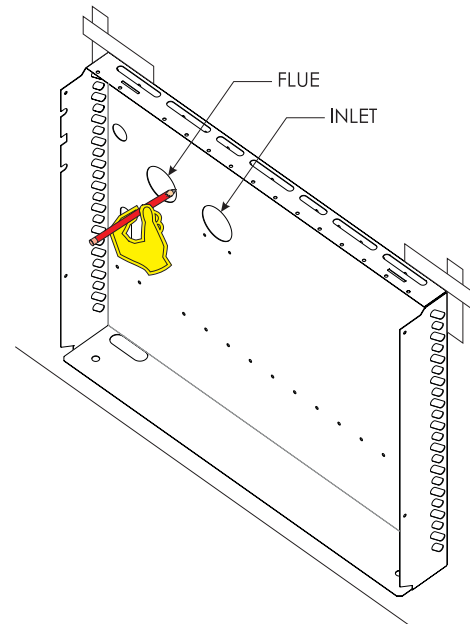

Figure 2
3. Mark corners of shroud with masking or painter's tape. Mark flue and inlet (if used) pipe holes. See **Figure 2**.